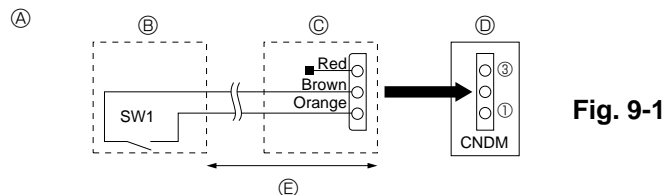

Fig. 9-1
- ① Circuit diagram example (low noise mode)
② On-site arrangement
③ External input adapter (PAC-SC36NA)
④ Outdoor unit control board
⑤ Max. 10 m
9.1. Low noise mode (on-site modification) (Fig. 9-1)